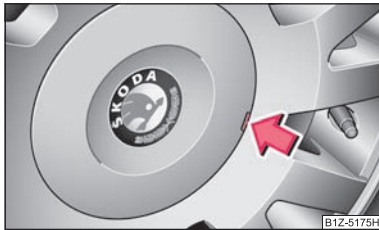

Fig. 178 Pulling off wheel trim cap on light alloy wheels
- Carefully remove the wheel trim cap using the wire clamp ⇒ fig. 178. ■